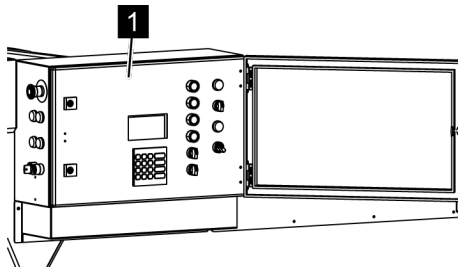

Fig. 152: Closing the door
4. → Close the door (Fig. 152/1) of the bottom control and lock it with the included double bit key.